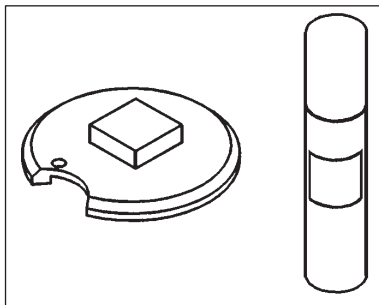

Fig. 19
- Fix the specimen onto the specimen disc with cyanoacrylate adhesive (→ Fig. 19).